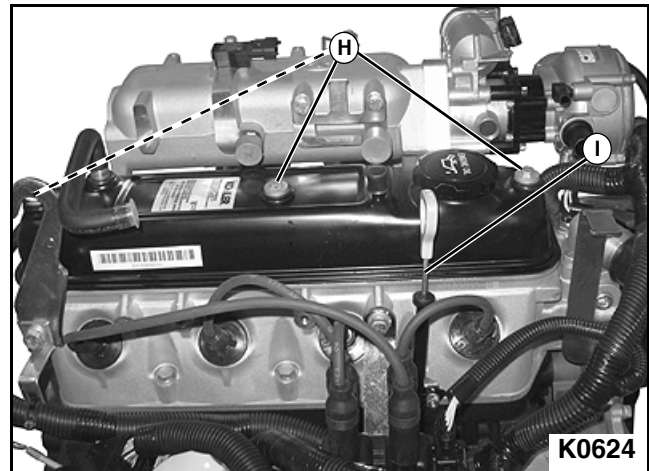

Figure 3-97
5. Remove three rocker arm cover mounting nuts and oil seals (H). **See Figure 3-97.**
6. Remove engine oil dipstick (I).